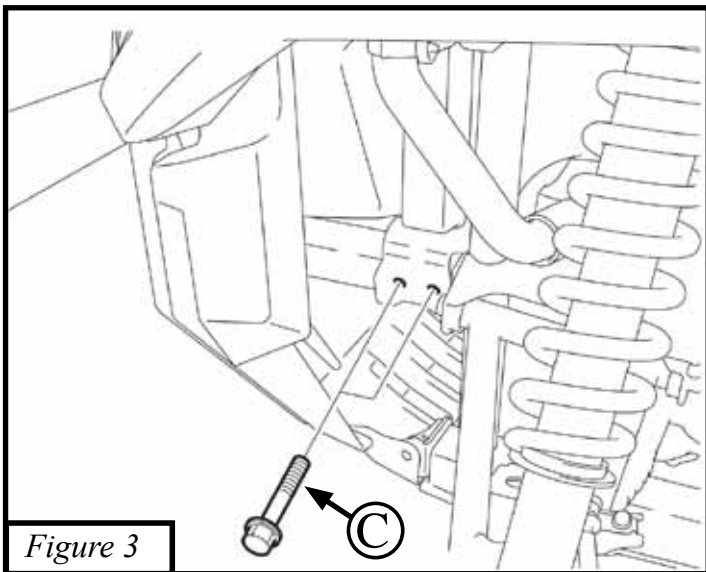
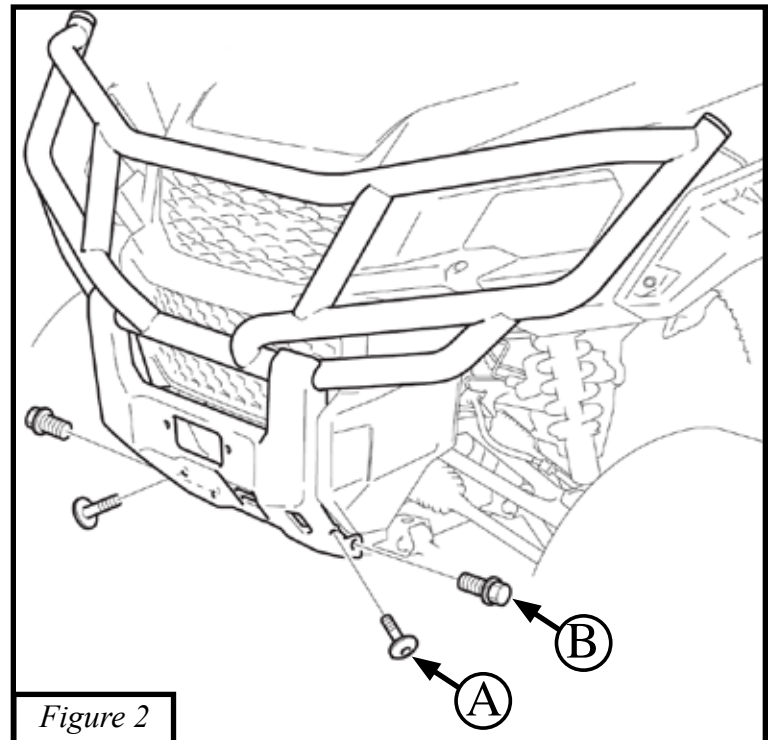

Figure 3
Figure 2
1. Remove the front bumper. Start by taking off the cap screws (A) holding the plastic to the bumper on each side. Remove the two bolts (B) on the bottom of the bumper as shown in Figure 2, and the four bolts (C) in the bumper tube as shown in Figure 3.